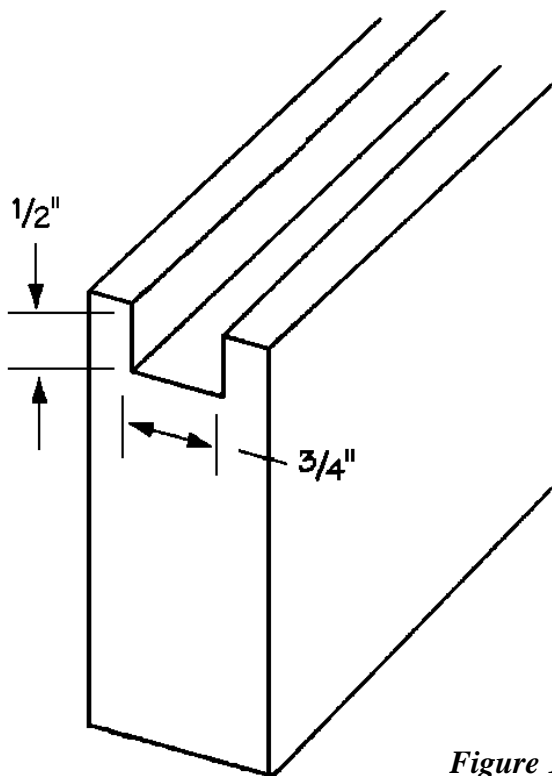
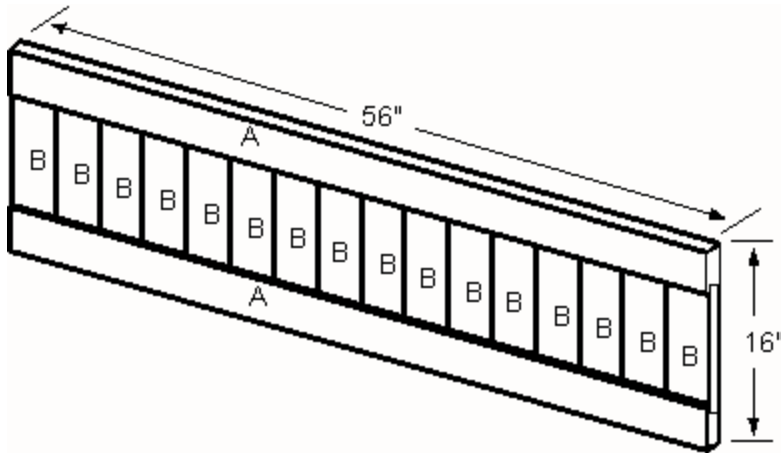

Figure 1
Figure 2
1. Cut two headboard top/bottoms (A) from 2 x 4 pine, each measuring 56 inches long.
2. Cut a 3/4-inch-wide dado, 1/2-inch deep down the length of one edge of each of the headboard top/bottoms (A), as shown in *Figure 1*.
3. Cut sixteen headboard slats (B) from 1 x 4 pine, each measuring 10 inches long.
4. Working on a level surface, place the two headboard top/bottoms (A) parallel to each other, with the dados to the inside, as shown in *Figure 2*. Fit the ends of the sixteen headboard slats (B) into the dados in the headboard top/bottoms (A). When the headboard slats are properly fitted, the distance between the two headboard top/bottoms should measure 9 inches. When the positions are perfect, the overall measurement of the headboard assembly should be 16 inches high and 56 inches long. Secure the slats by nailing through the dadoed edge of the headboard top/bottoms (A) into the ends of the headboard slats (B) using two 1-1/4-inch-long nails on each joint.
1. Cut two footboard top/bottoms (E) from 2 x 4 pine, each measuring 56 inches long.
2. Cut a 3/4-inch-wide dado, 1/2-inch-deep down the length of one edge of each of the footboard top/bottoms (E), as shown in *Figure 1*.
3. Cut sixteen footboard slats (F) from 1 x 4 pine, each measuring 8-1/2 inches long.
4. Working on a level surface, place the two footboard top/bottoms (E) parallel to each other, with the dados to the inside, in the same manner as shown in *Figure 2*. Fit the ends of the sixteen footboard slats (F) into the dados in the footboard top/bottoms (E). When the footboard slats are properly fitted, the distance between the two footboard top/bottoms should measure 7-1/2 inches. When the positions are perfect, the overall measurement of the footboard assembly should be 14-1/2 inches high and 56 inches long. Secure the slats by nailing through the dadoed edge of the footboard top/bottoms (E) into the ends of the footboard slats (F) using two 1-1/4-inch-long nails on each joint.